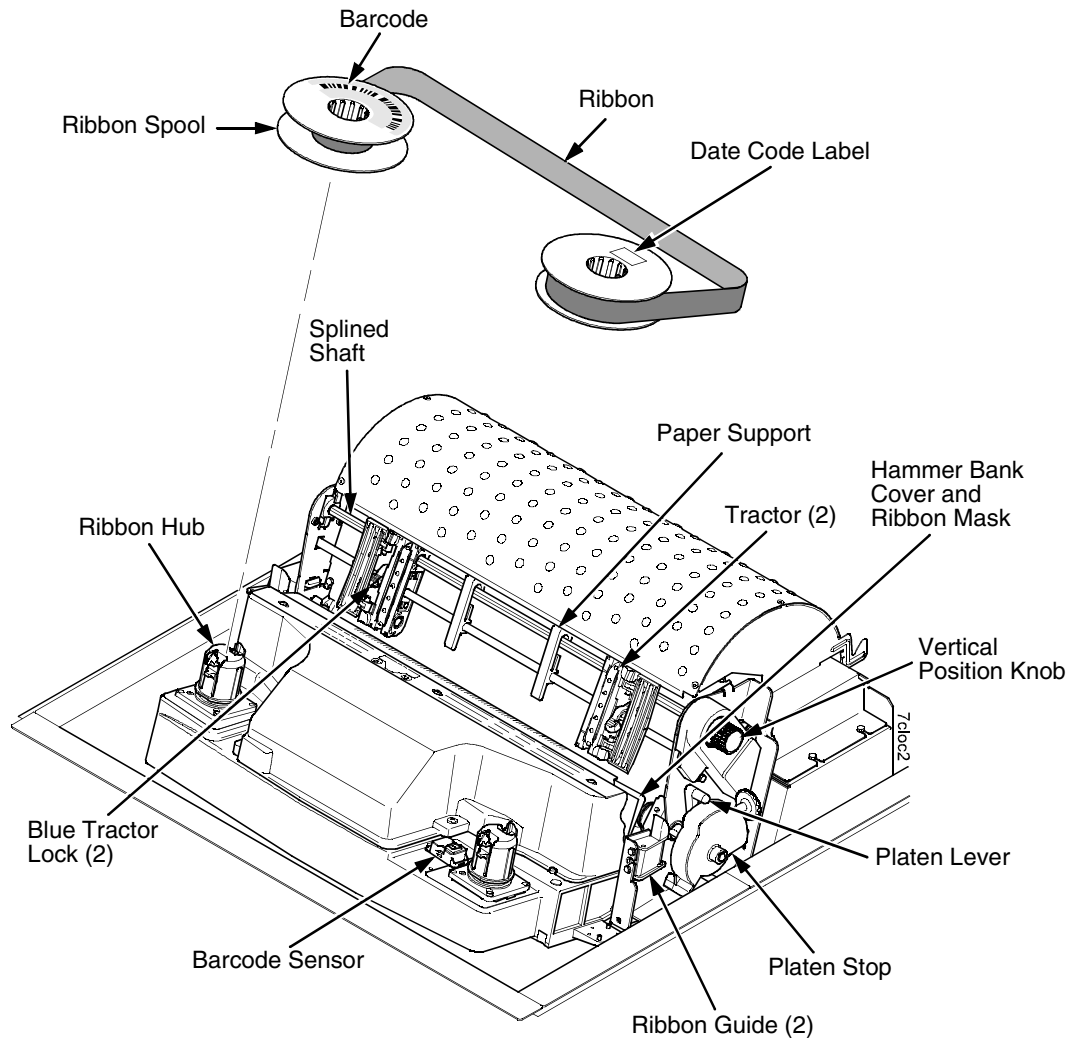

Figure 4. Printer Component Locations
1. Raise the printer cover. Raise the platen lever as far as it will go. (See Figure 4 on page 26 for the location of the lever.)
6. Pull the new paper above and behind the ribbon mask, but in front of the existing paper. See Figure 4 on page 26 for the ribbon mask location. If necessary, gently press the existing paper back.